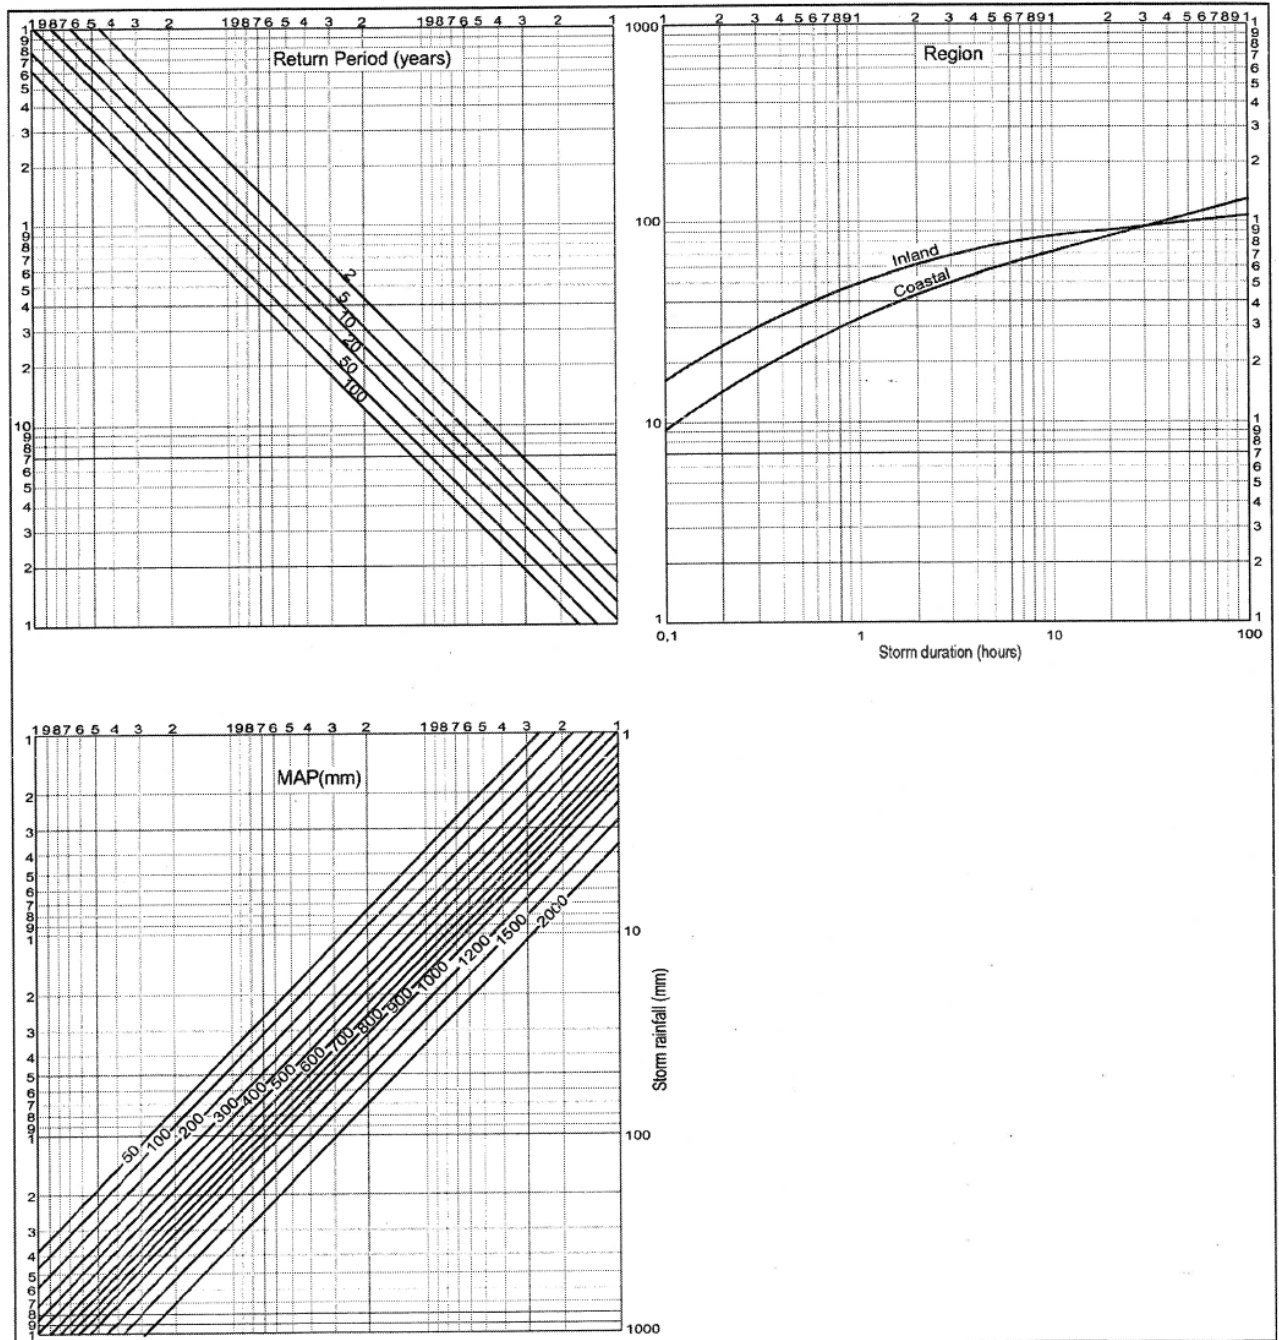

Figure 3.6: Depth-Duration-Frequency diagram for point rainfall
①	Table 3C.1
②	Table 3C.2
③	Table 3C.3
④	Table 3C.4
⑤	Table 3C.5
⑥	Figure 3.6